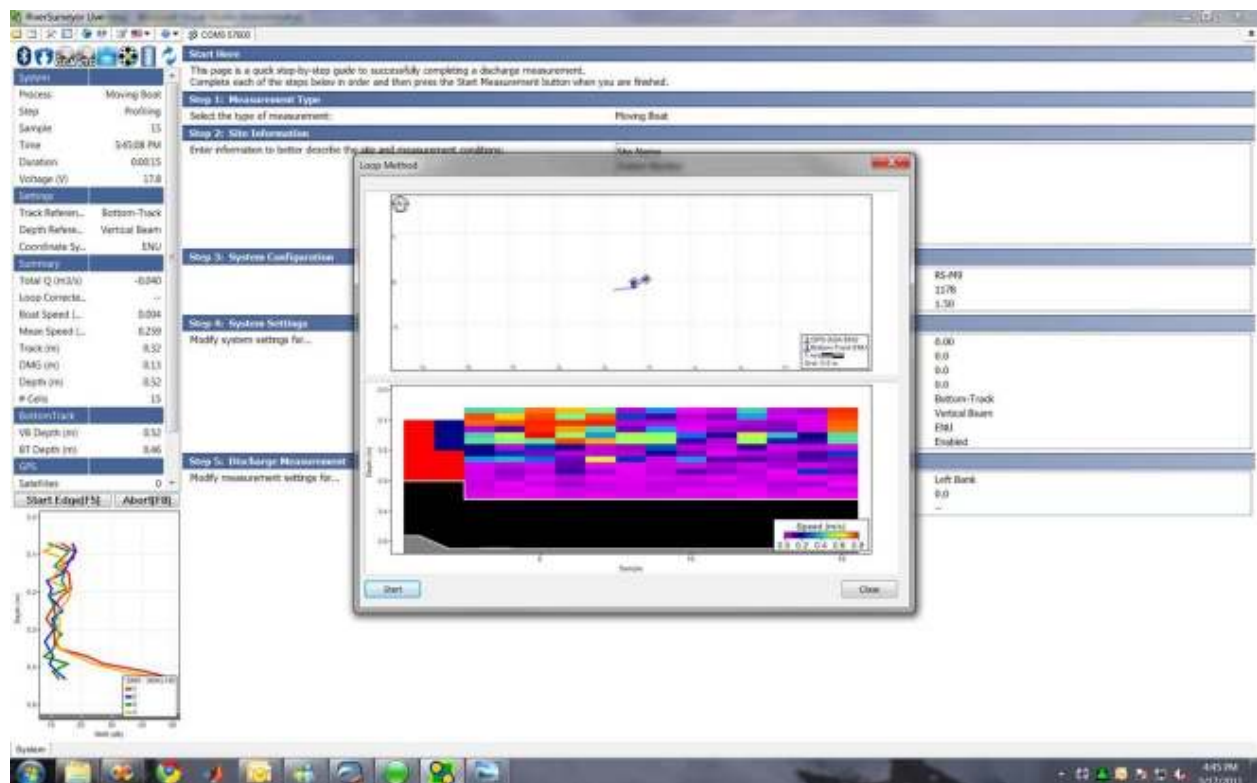

Figure 129. Start Loop Method
- In the PC software, a Loop Method window will appear in front of the transect page as shown in Figure 129. Make sure the boat is stationary and located at your starting position. Press the **Start** button and proceed to make a steady pass back and forth across the stream. The ship-track and contour plot are displayed.